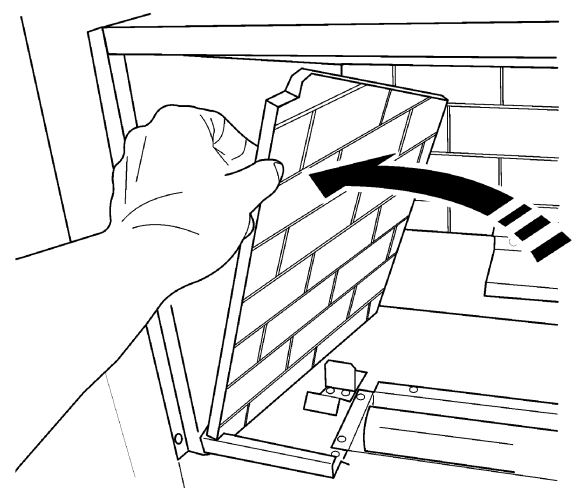

Figure 26. Ceramic side walls
Offer the ceramic side walls into the convection box. The bottom of the ceramic side walls should be located first (See figure 26). With the bottom in place gently lift the side wall until it is flat against the side of the convection box (See figure 26).
3. Gently lower the top of the ceramic side wall towards the burner being careful not to catch the bottom on the burner brackets (Reference figure 26). Lift the side walls clear of the convection box.